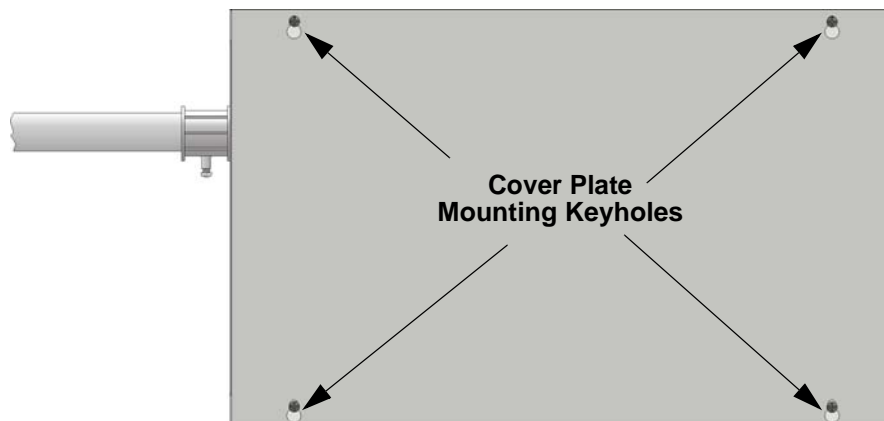

Figure 4-6 Cover Plate Mounting Keyholes and Cover Mounting Screws Alignment
6. Align the cover plate mounting keyhole over the cover mounting screws. See Figure 4-6.
7. Slide the cover into place and tighten the cover mounting screws. See Figure 4-6